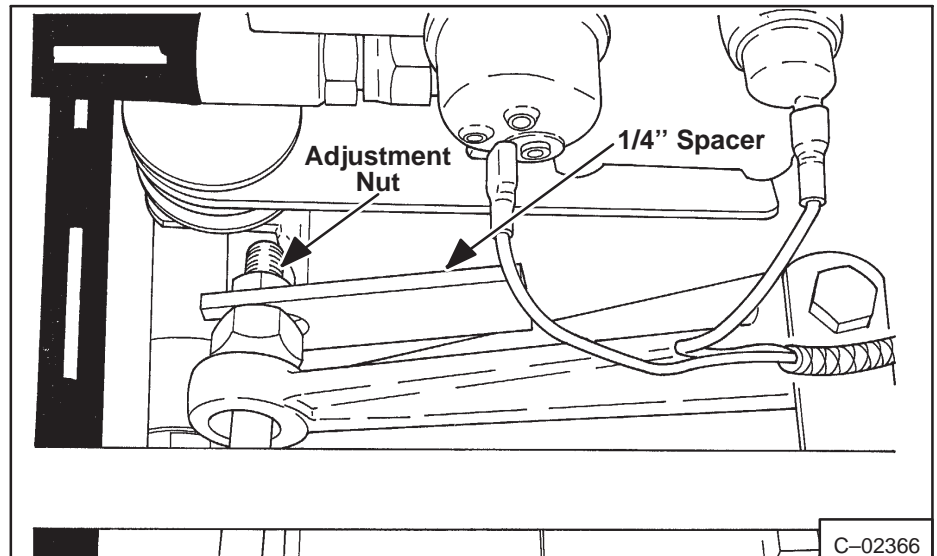

Fig. 1-32 Brake Linkage Adjustment
Make adjustment to brakes as follows: (Fig. 1-32)
3. There must be 1/4" (6,35) of freeplay between the spacer and the nut at the rear end of linkage (Fig. 1-32). See Section 4 for brake pad replacement and complete installation of brakes.